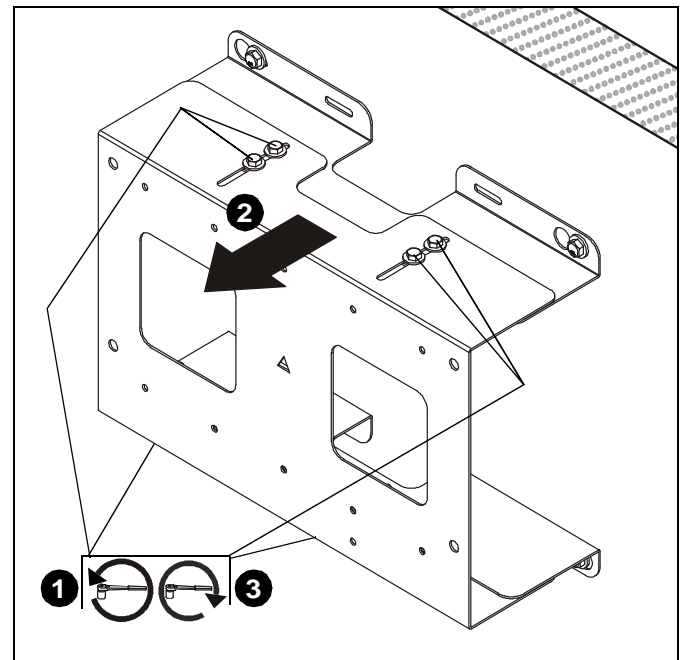

Figure 2
1. Loosen hex head screws on top and bottom of WBAP2. (See Figure 2)
2. Adjust the WBAP2 to increase depth available in WBAP2 bracket. (See Figure 2)